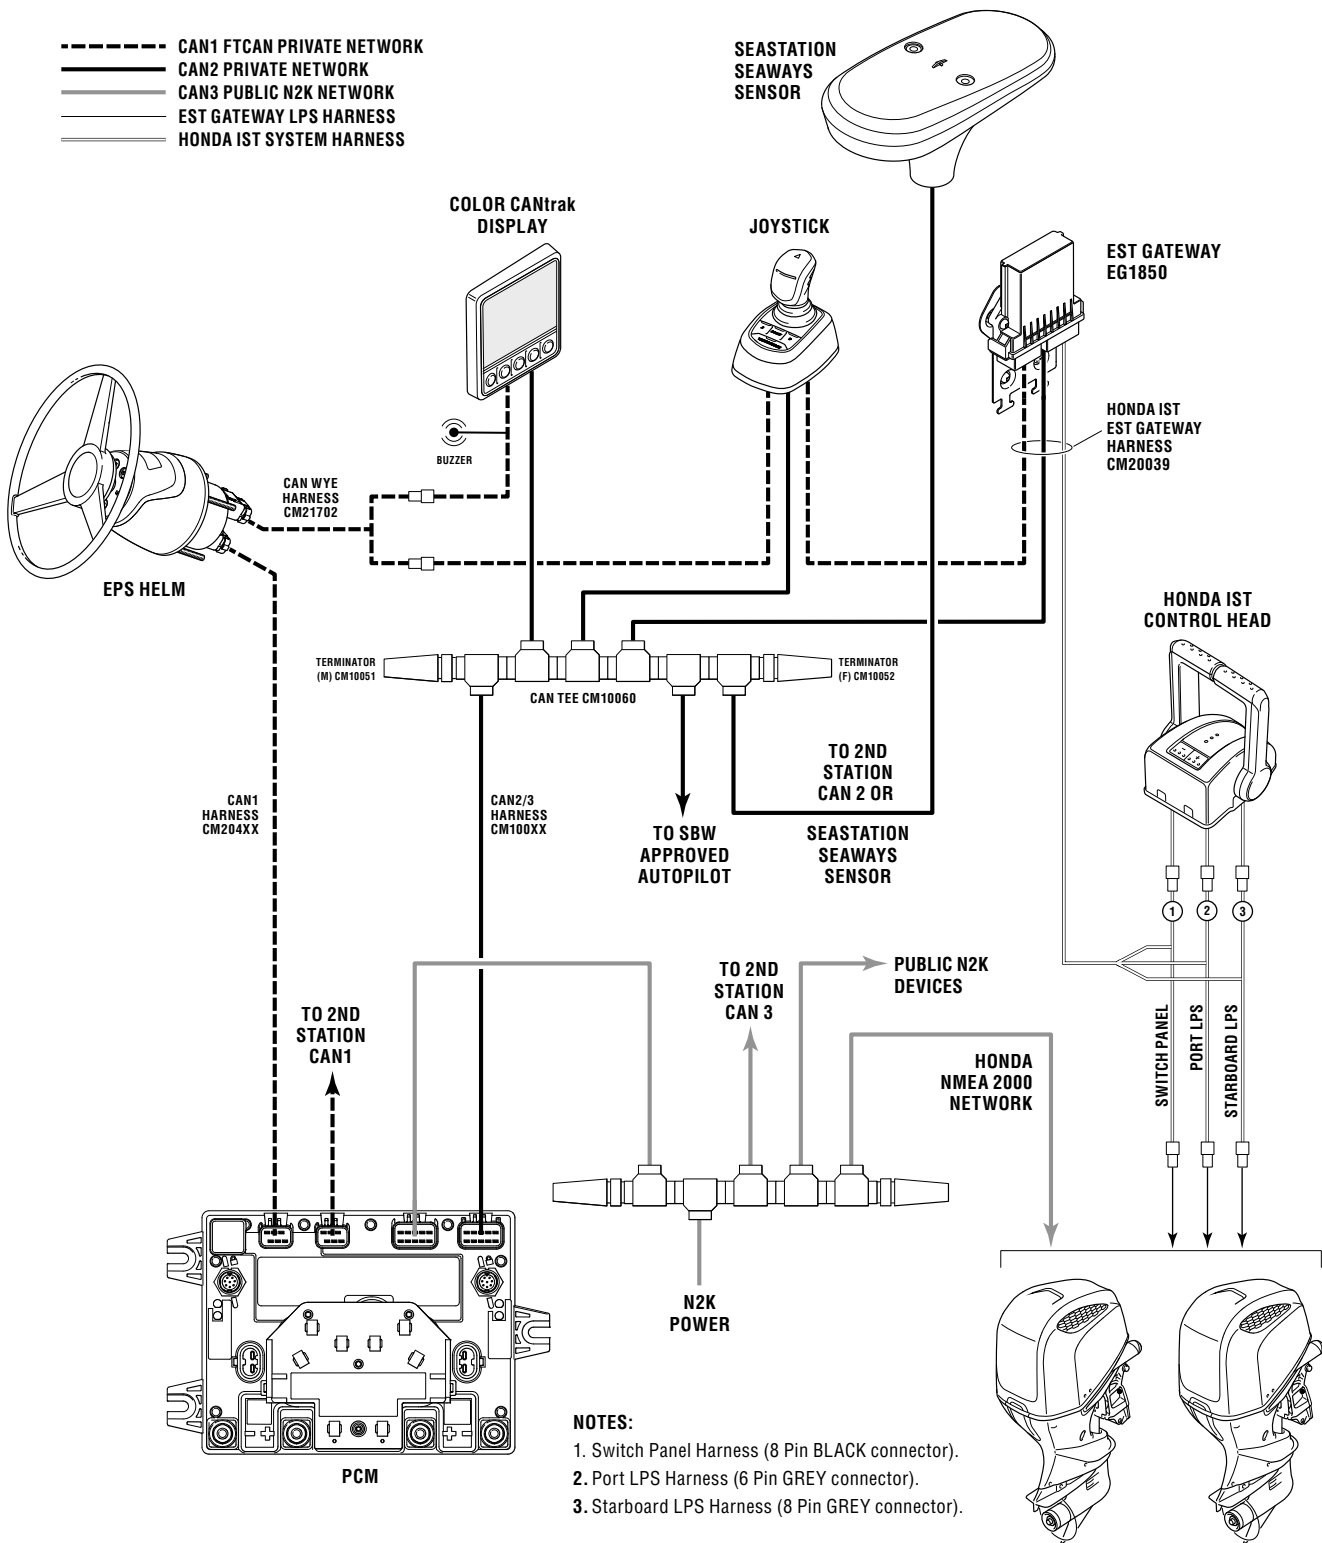
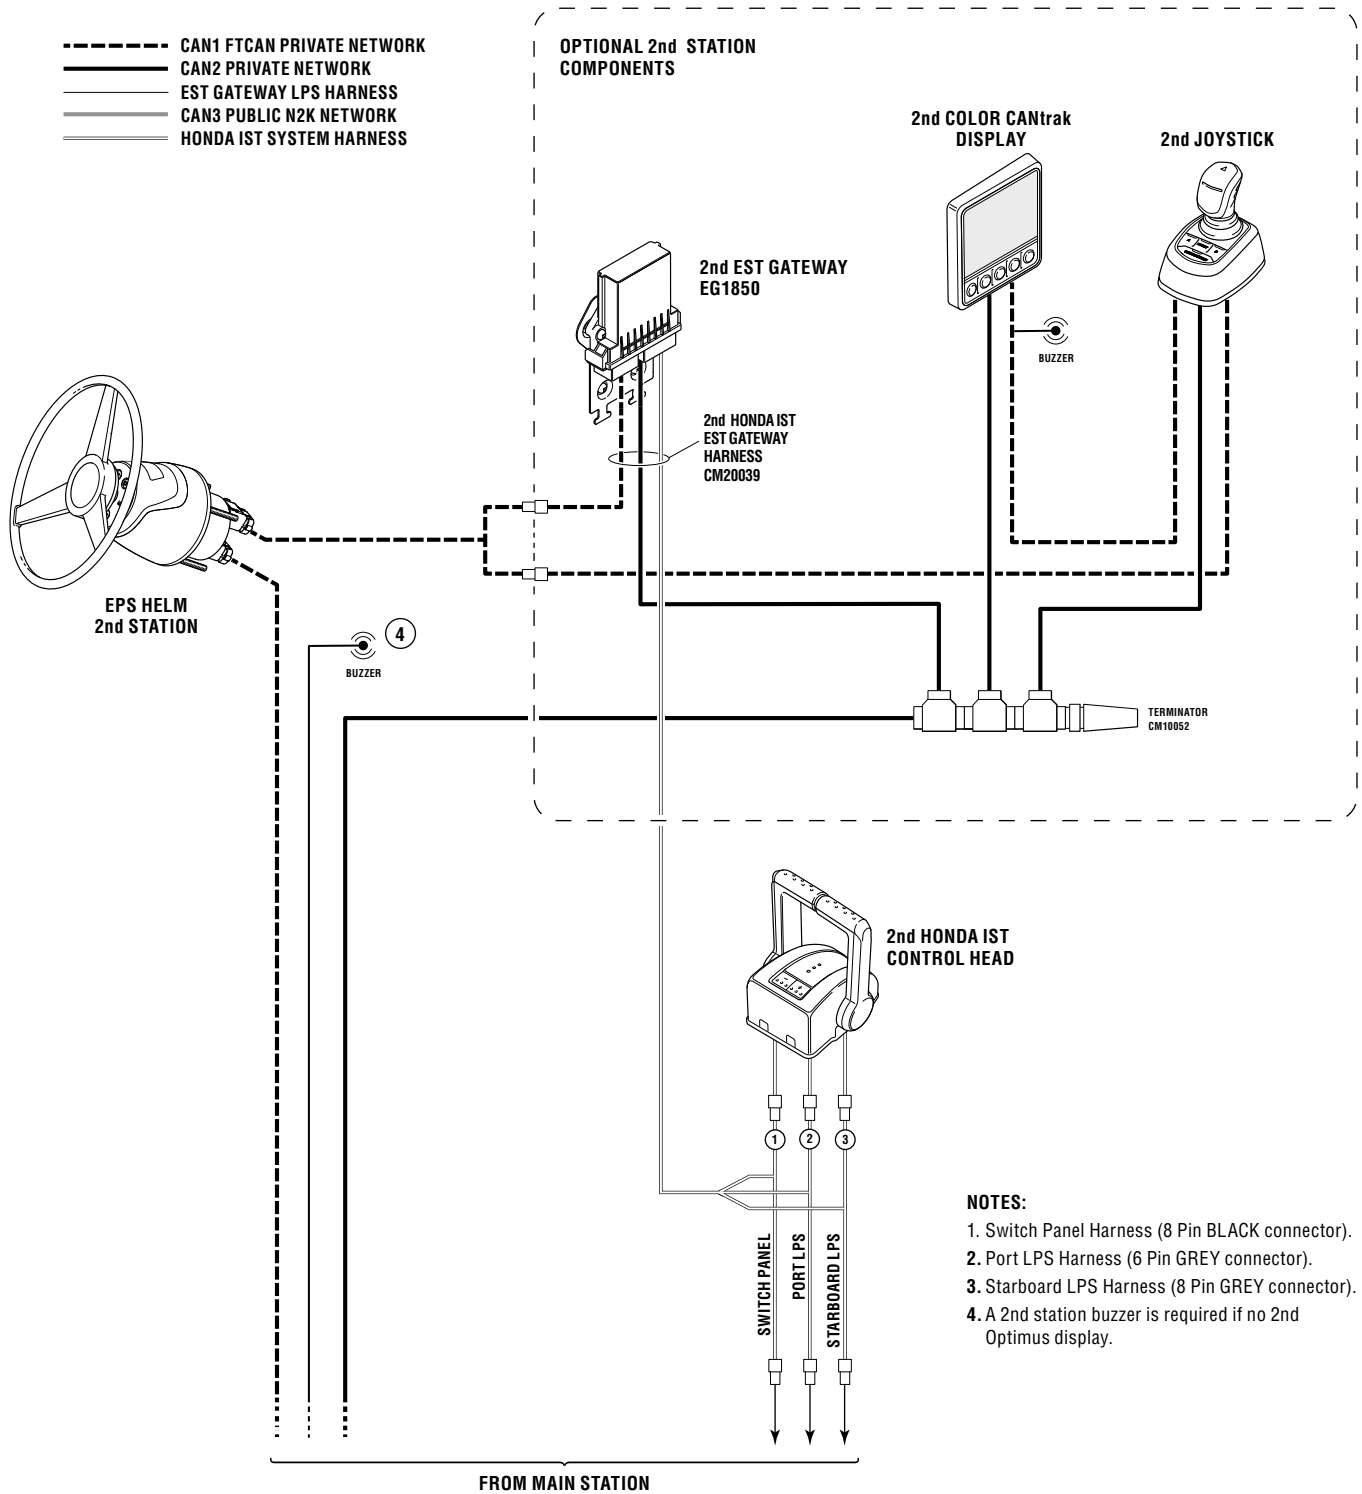

Figure 9-1. Honda IST – single station, twin engine.
Figure 9-2. Honda IST – Optional second station.
3. Complete the CAN1, CAN2 and CAN3 network connections (refer to figure 9-1 and figure 9-2).
These connections are illustrated in the figure 9-1 and figure 9-2.